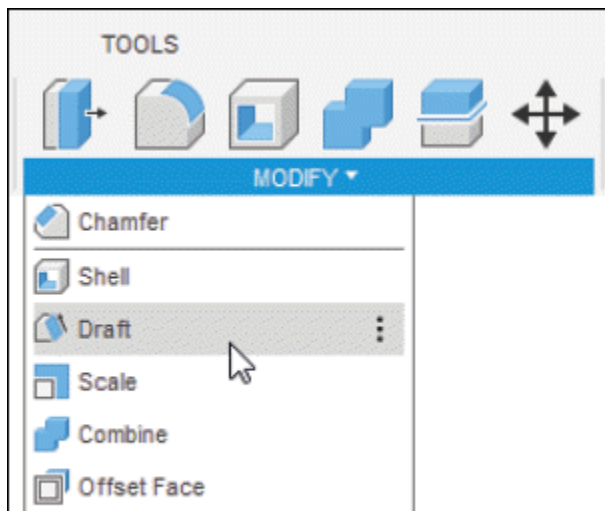
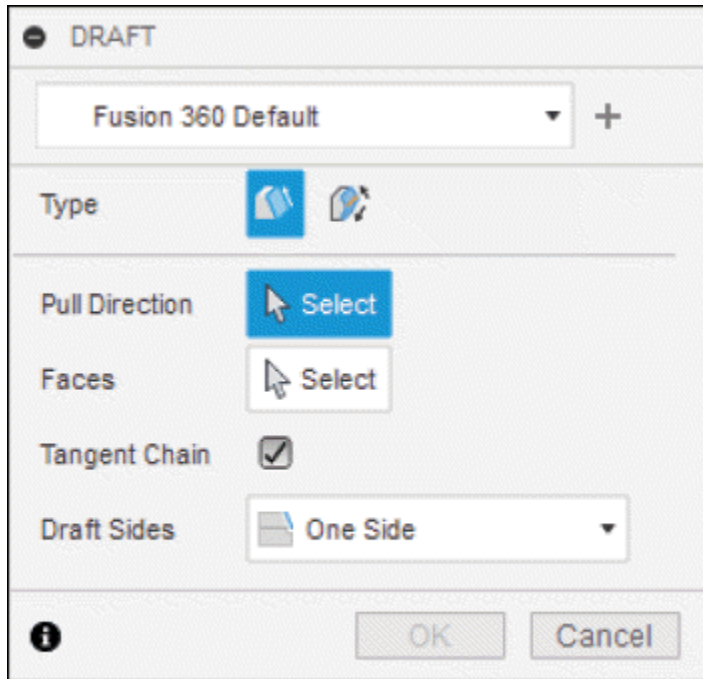

Figure-28. Draft tool
Figure-29. DRAFT dialog box
- Select **Draft** tool of **MODIFY** drop-down from **Toolbar**; refer to Figure-28. The **DRAFT** dialog box will be displayed; refer to Figure-29.